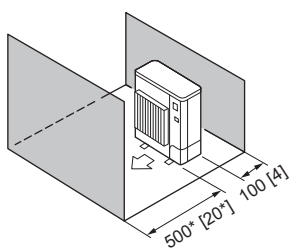

Fig. 2-10
- Obstacles at front and rear only (Fig. 2-10)